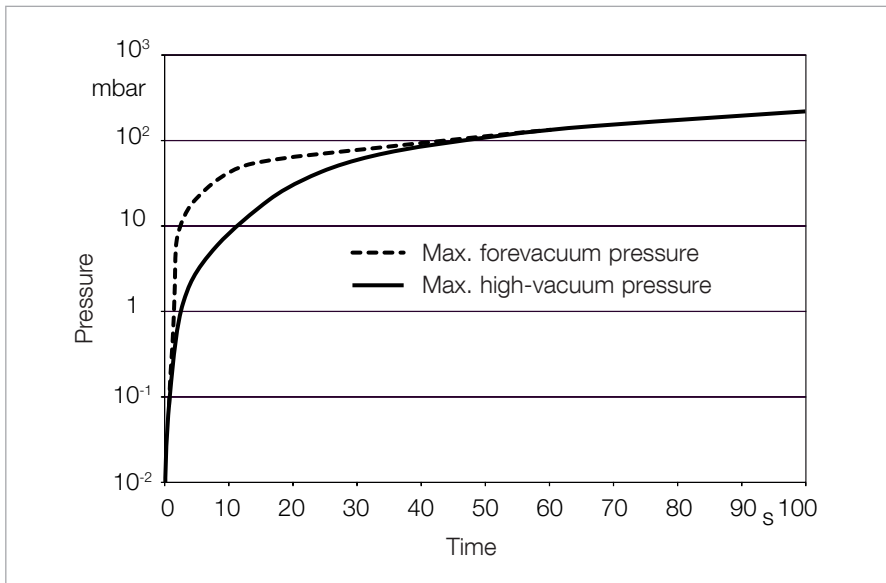

Fig. 4.1 Pressure rise curve for safe venting
In the case of an emergency shut down, the pump is switched off as described above. The rotor of the turbomolecular pump may be stopped faster by controlled venting the pump, see Fig. 4.1.
**Speed** All turbomolecular pumps may be vented at full speed. However, the pressure must not increase faster than specified through the pressure rise curve, see Fig. 4.1.